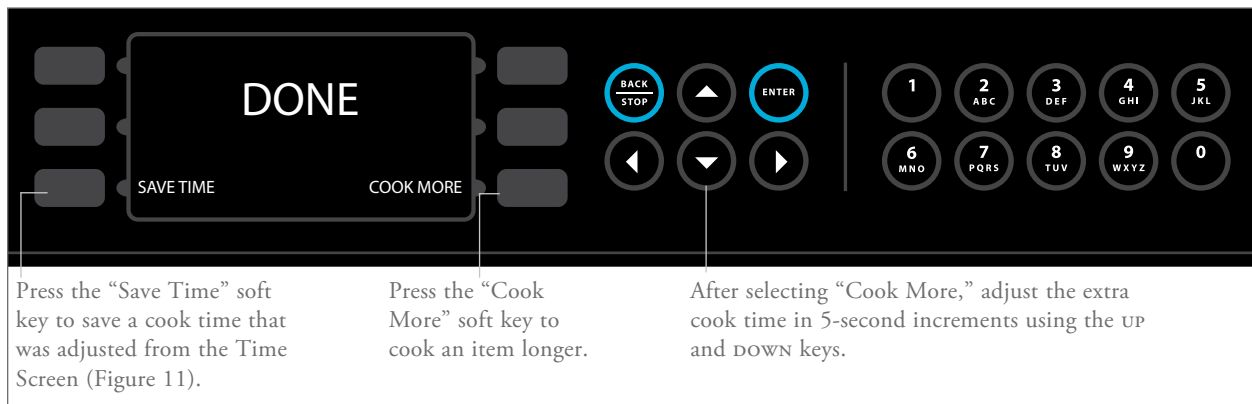

FIGURE 12: Done Screen
Refer to Figure 12. If the DONE screen is enabled, the operator is given two choices after cooking:
2. Cook More – the oven will cook the food item using the cook settings of the final recipe event (see pages 16-17 for more information about recipe events). By default, the extra cook time is the greater of 10 seconds or 25% of the last cook cycle. The operator may adjust the cook time before starting a “cook more” cycle (Figure 12).